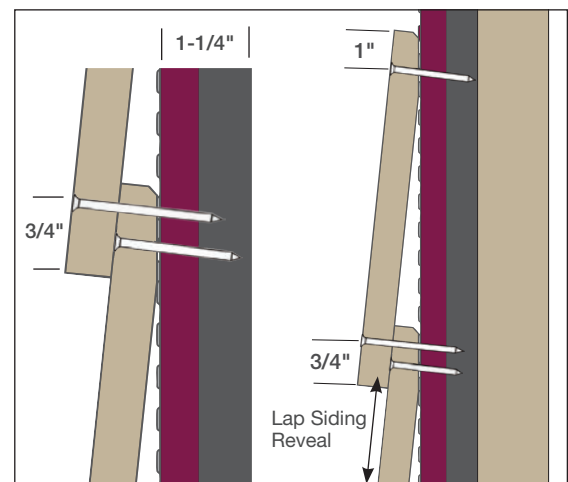

Fig. 35
- Place an extra fastener 3/4" from the bottom edge of the siding **(Fig. 35)**